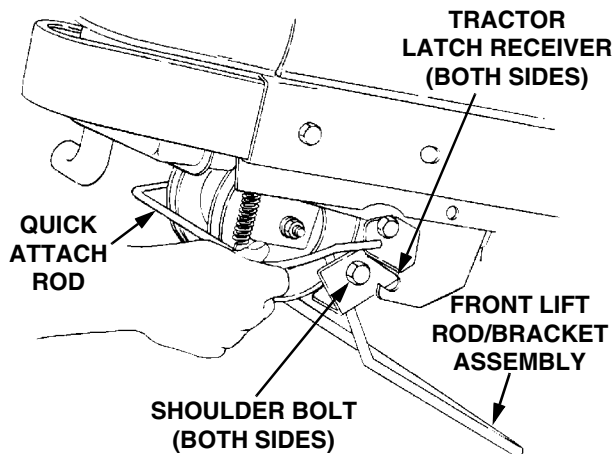

Figure 46
12. From the front of the tractor, push downward and hold the tractor quick-attach rod. Pull the front lift rod/bracket assembly forward to release the shoulder bolts on each side of the bracket from the left and right tractor latch receivers. Release the tractor quick-attach rod. Refer to Figure 46